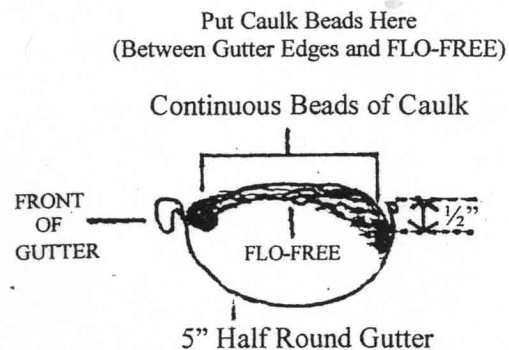

Figure 3 – Applying Caulk Beads
B. Before inserting FLO-FREE into the gutter, run a continuous bead of silicone caulk ½" below the back edge of gutter (see figure 3). Do **NOT** apply silicone to the front edge at this time.
C. Carefully place the first length of FLO-FREE into the gutter and gently push the back edges of the FLO-FREE into the caulk. With a cupping action, insert the front edge of the FLO-FREE into the gutter, positioning it approximately ½" below the front top edge of the gutter (see figure 3). Adjustments can be made with a long thin tool (i.e. an awl or even a sharp pencil). Please exercise a little patience when performing this process, to ensure that all FLO-FREE pieces are adjusted to sit properly before the caulk sets up.